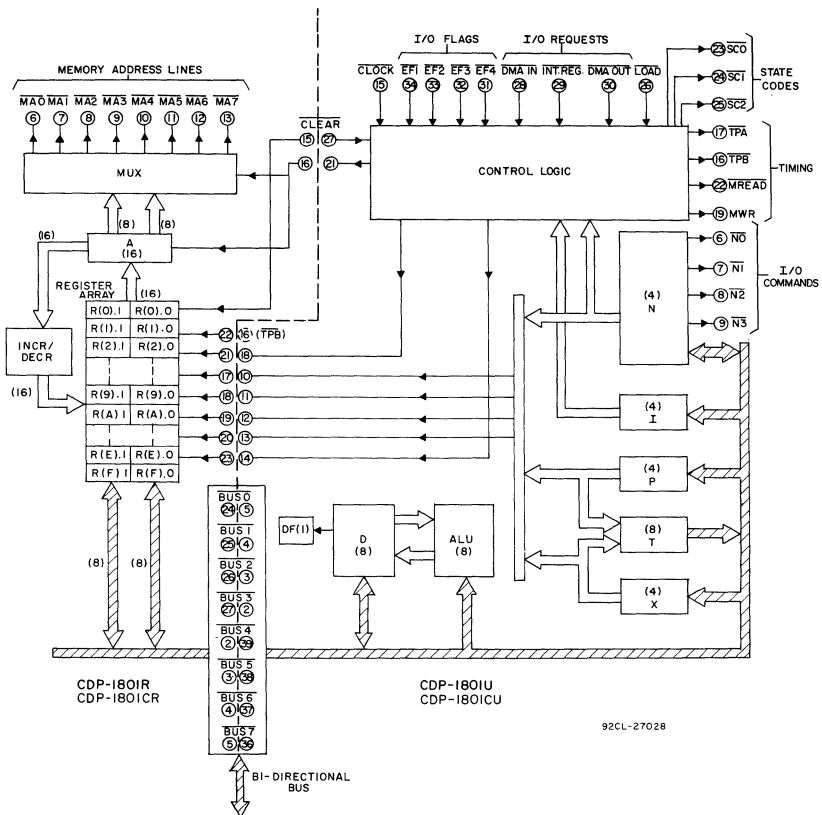

Fig. 15—CDP1801, CDP1801C Microprocessor block diagram.
The COSMAC block diagram is shown in Fig. 15. The principal feature of this system is a register array (R) consisting of sixteen 16-bit scratchpad registers. Individual registers in the array (R) are designated (selected) by a 4-bit binary code from one of the 4-bit registers labeled N, P, and X. The contents of any register can be directed to any one of the following three paths: